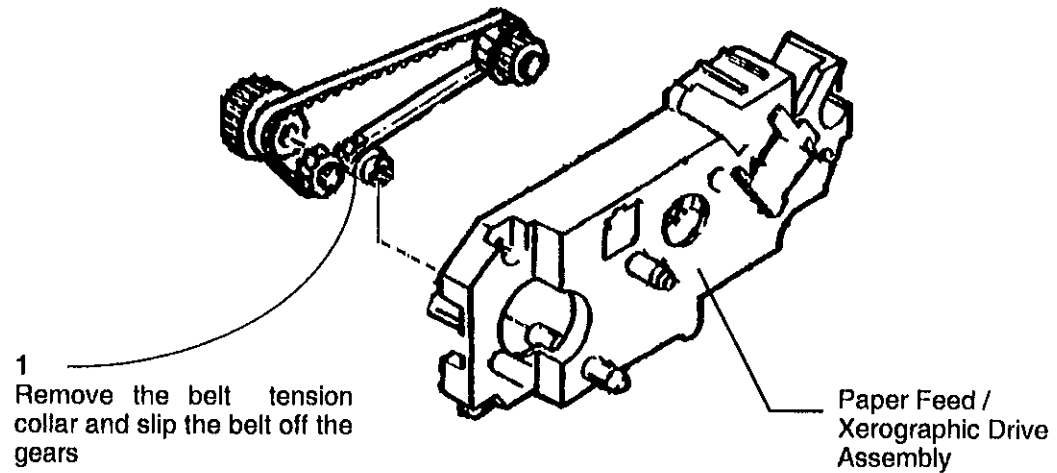

Figure 1. Removing the Paper Feed Drive Belt
- 2 (Figure 1): Remove the paper feed drive belt